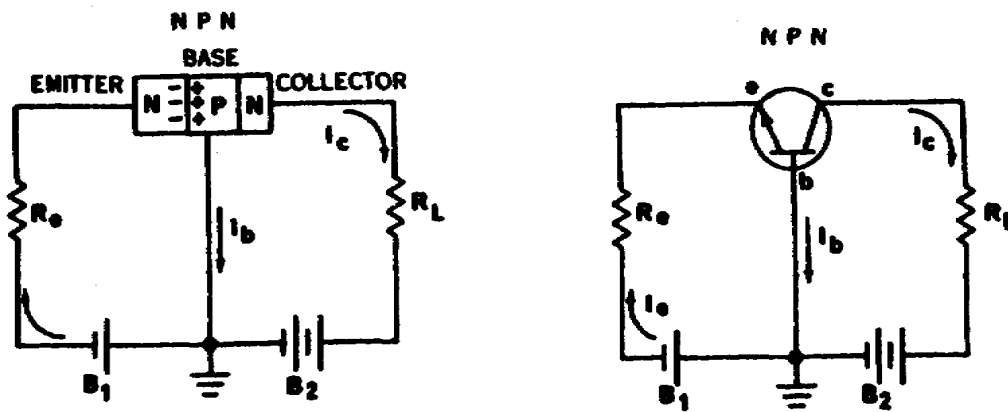

Figure 119. Common base circuit.
2. **Common Base Circuit.** Figure 119 shows a common base circuit using a triode transistor. A thin layer of P-type material is sandwiched between two pellets of N-type material. The layer of P-type material is the base when the two pellets of N-type material are the collector and the emitter. The emitter is connected to the base through a small battery (B_1). This battery is connected with its negative electrode to the N-type emitter and its positive electrode to the P-type base. Thus, the emitter-base junction has forward bias on it. Recombination of the electrons and holes causes base
3. Battery B_2 is connected to produce reverse bias on the collector-base junction. However, current will flow in the collector-base circuit. Let's see why this current will flow. In this emitter, electrons move toward the emitter-base junction due to the forward bias on that junction. Many of the electrons pass through the emitter-base junction into the base material. At this point the electrons are under the influence of the strong field produced by B_2 . Since the base material is very thin, the electrons are accelerated into the collector. This results in collector current (I_c), as shown in figure 119. About 95 percent of the electrons passing through the emitter-base junction enter the collector circuit. Thus, the base current (I_b), which is a result of recombination of electrons and holes, is only 5 percent of the emitter current.